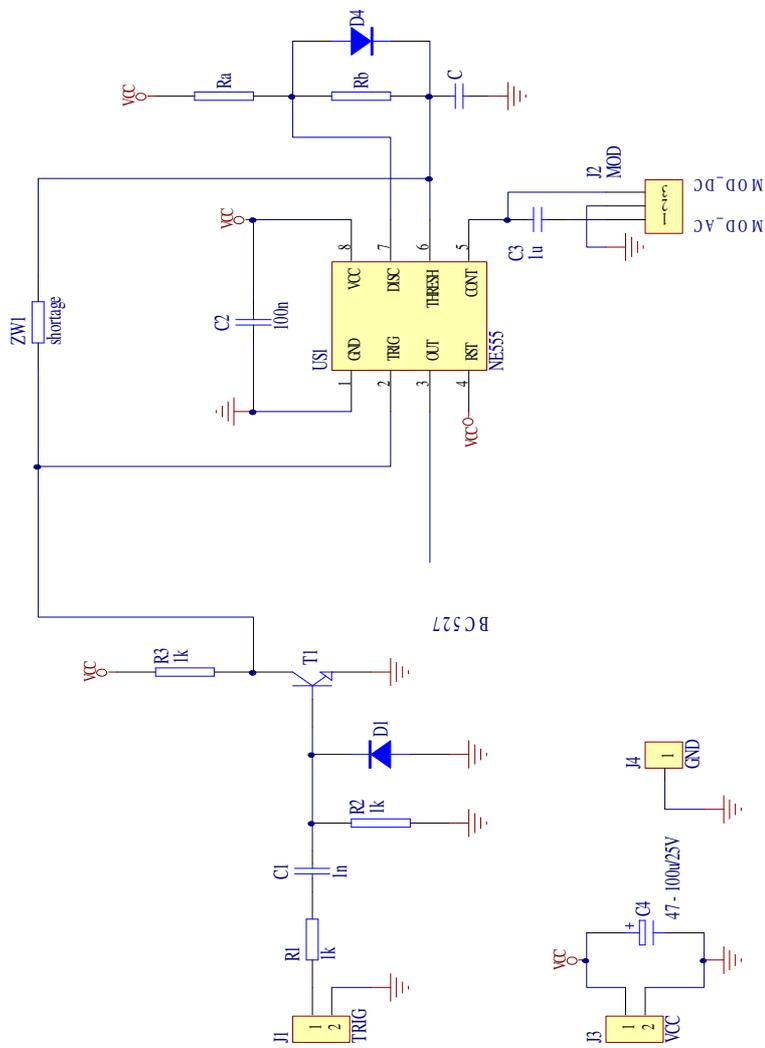
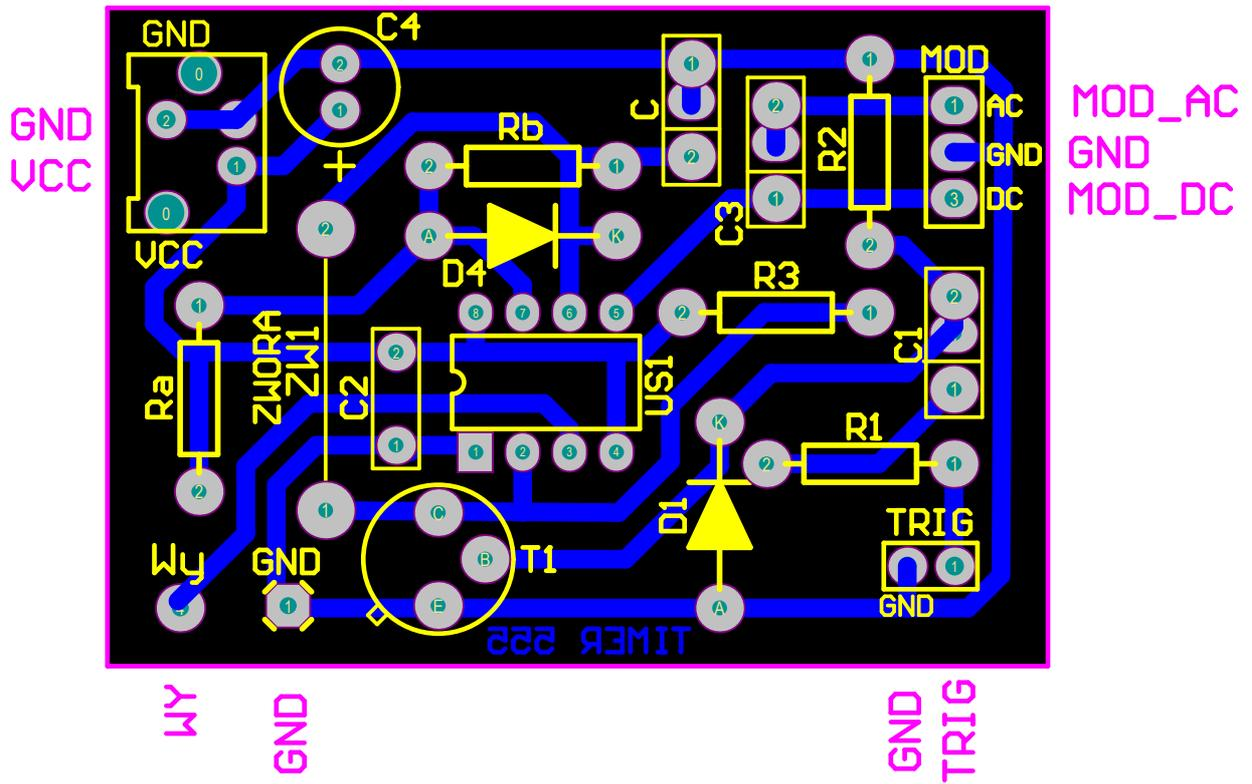

Fig. 4. Full schematic diagram of circuit under test.
Fig.5.PCB of „555” circuit – top view „555” top view.
The complete wiring diagram of the laboratory system is shown in Fig.4, and in Fig.5 there are assembly diagrams of the PCB.
5. The flip-flop system should be designed, i.e. assume the value of some elements and calculate the remaining values (the best choice is to accept the capacitance value and calculate the resistances). The values of some parameters can be suggested by the tutor Calculated values should be put on the printed diagram from Fig. 4 (non-assembled elements should be crossed out).
Before assembling the system, the values of elements (resistors and capacitors) should be measured, and their values should be entered on the prepared diagram next to the calculated values. The system should be assembled in accordance with the assembly diagram shown in Fig.5
- the diagram from Fig.4 and the PCB from Fig.5 contain elements for both the astable and monostable flip-flop systems;